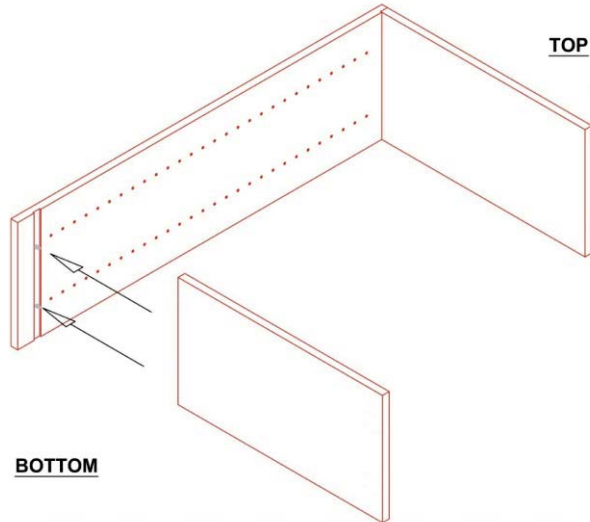

Figure 1
2. Attach to the top and bottom panels to the left side panel using the pre-drilled holes and screws provided (**Figure 1**).